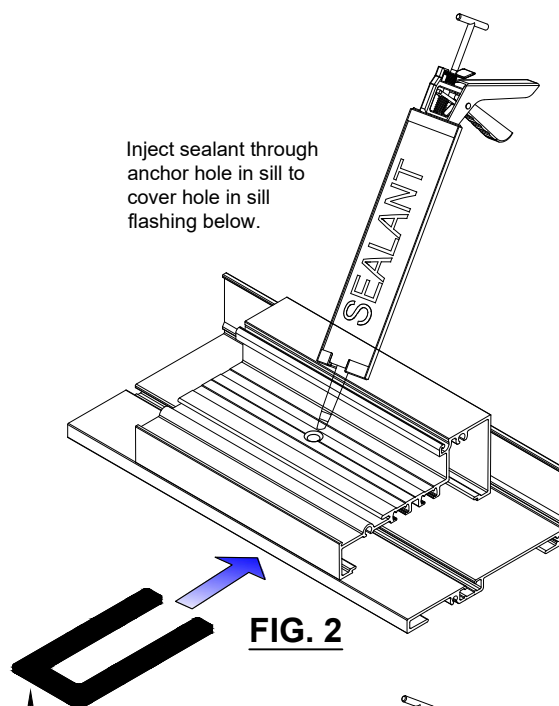

FIG. 2
- J. Inject sealant into anchor hole to cover hole in flashing. See **Fig. 2**.